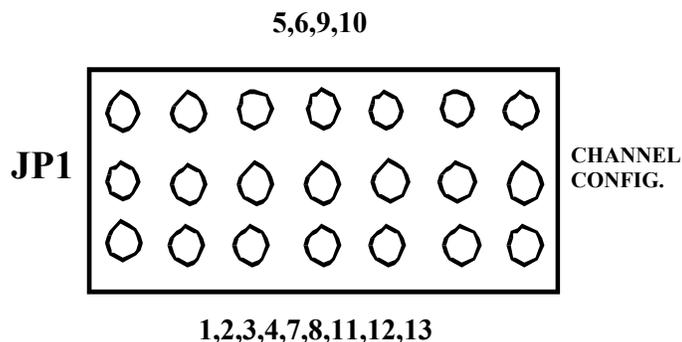

Figure 1. ASC Card Jumper Block
6. On both the operational and spare ASC, set the backup channel configuration using the seven jumpers on JP1. Using all seven jumpers, move the jumpers to the side of the block that lists the number of output channels for your site configuration, the center row of pins being common. Example: Using figure 1 as a reference, if your site configuration had 5, 6, 9, or 10 channels, each jumper would connect from the center row of pins to the top row of pins. If your site configuration had 1, 2, 3, 4, 7, 8, 11, 12, or 13 channels, each jumper would connect from the center row of pins to the bottom row of pins.